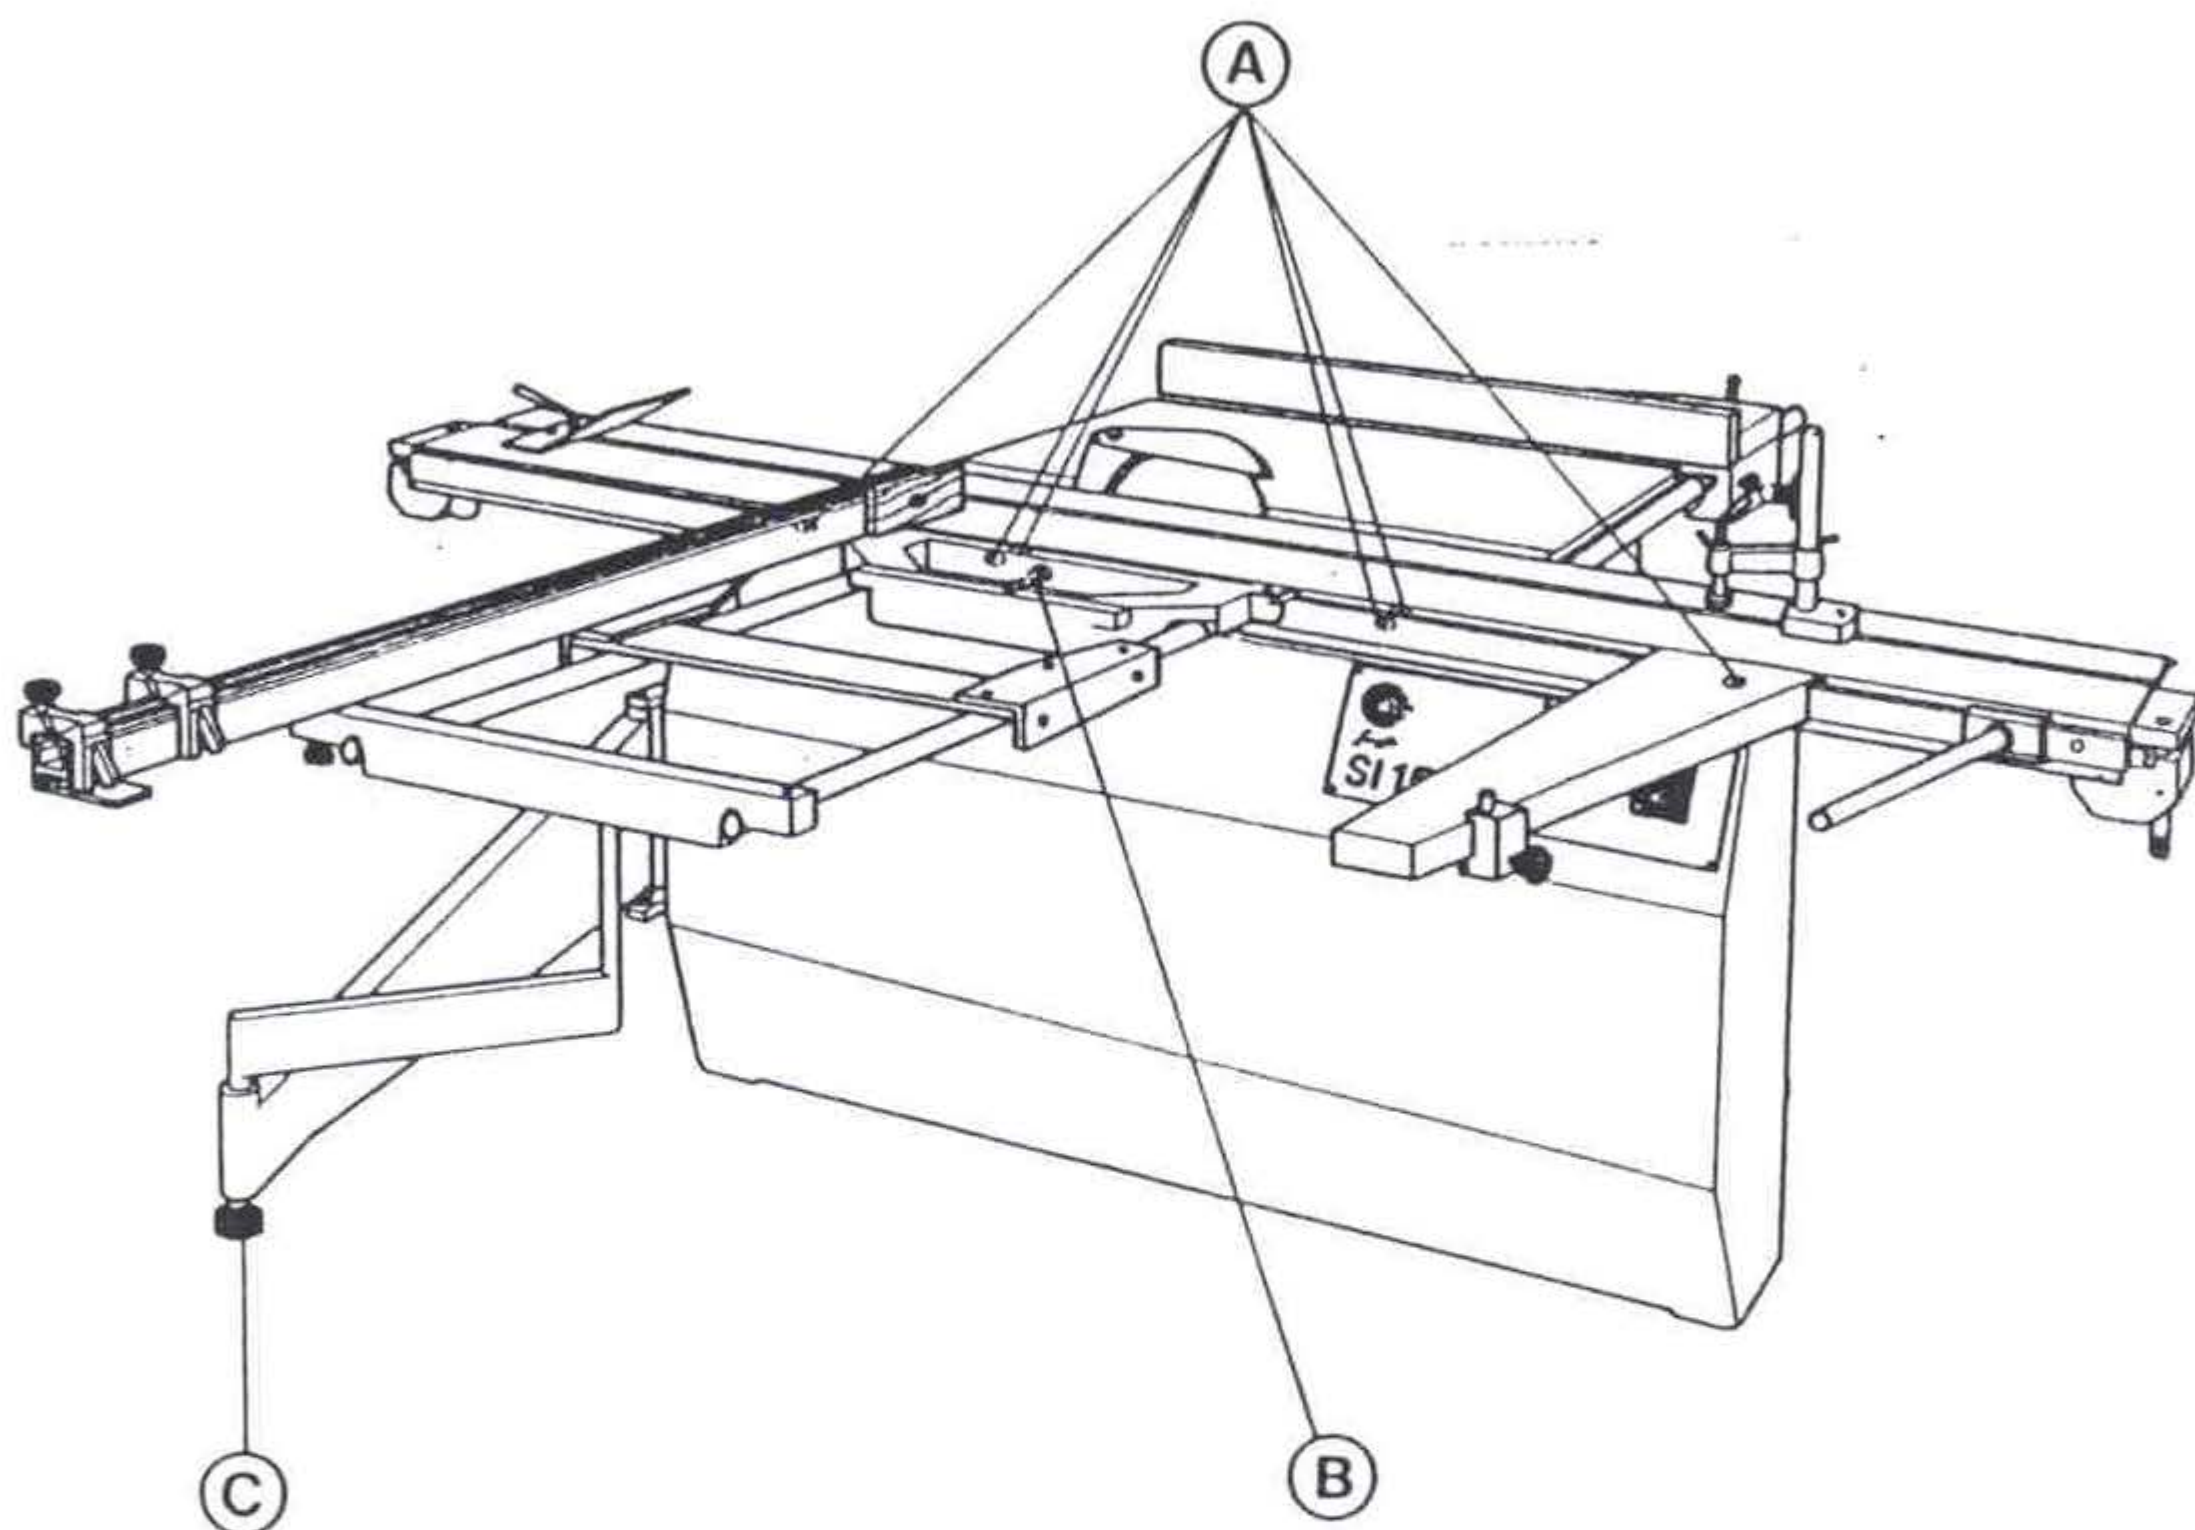

Fig. 15
## XI MOUNTING OF THE 2.7/3.2 MTS. SLIDING TABLE fig. 15 (SI15WF)
Generally for transport facility, the sliding table is delivered separate from the machine. For its mounting, use the position pins, the counter-sunk headed screws (A) as in fig. 15 and lock them very tightly. This machine can be either fixed to the floor by means of four bolts or simply posed. Free the sliding table by lowering the locking pin at one end of
The extension table is mounted by forcing its front part on the rule situated on the sliding table and locking it by rotating the lower cam (B) fig. 15. The gooseneck has to be introduced in one of the holes of the extension table's rear (the most appropriate one) the level of which can be adjusted by the knob (C).